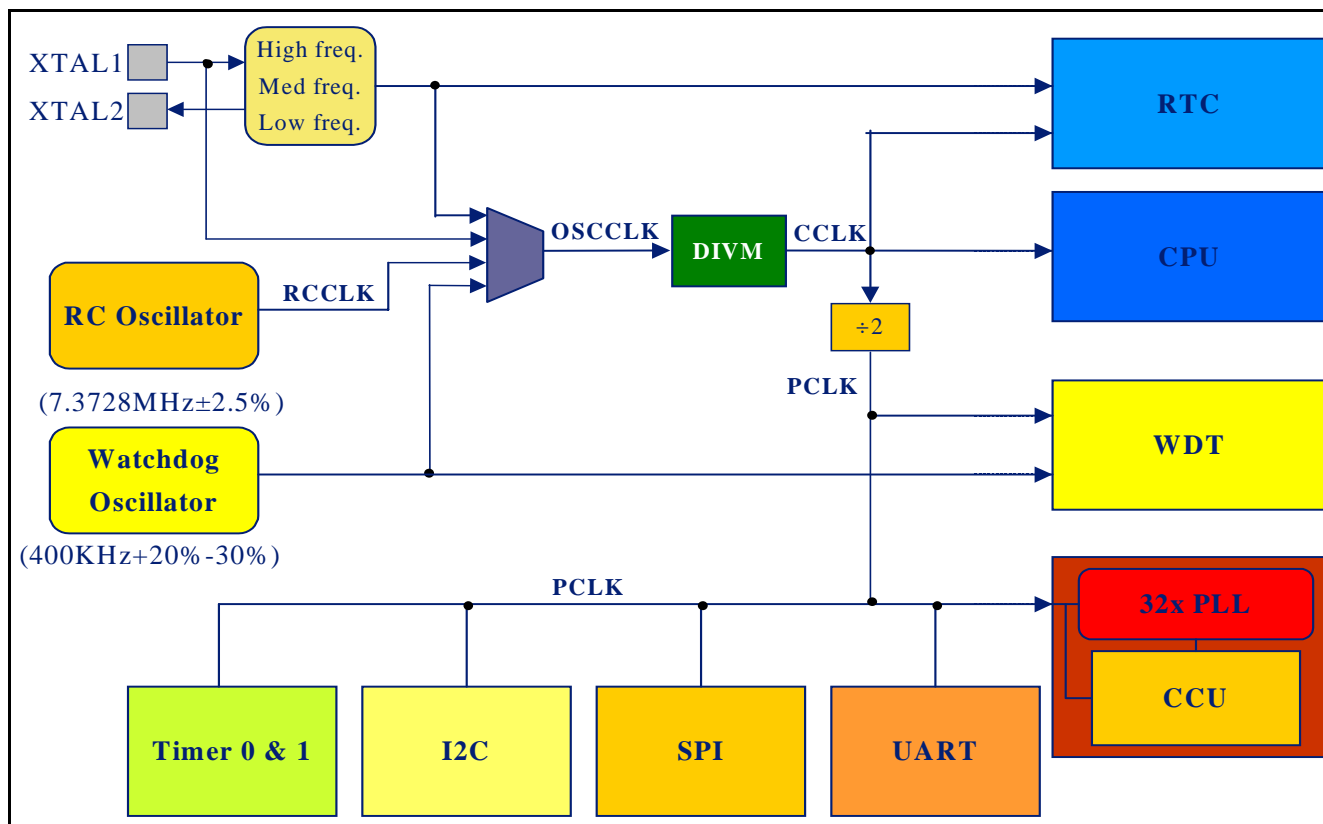

Figure 5: Block diagram of oscillator control
- OSCCLK - Input to the DIVM clock divider. OSCCLK is selected from one of four clock sources (see Figure 5) and can also be optionally divided to a slower frequency (see section "CPU Clock (CCLK) Modification: DIVM Register"). **Note:**  $f_{OSC}$  is defined as the OSCCLK frequency.